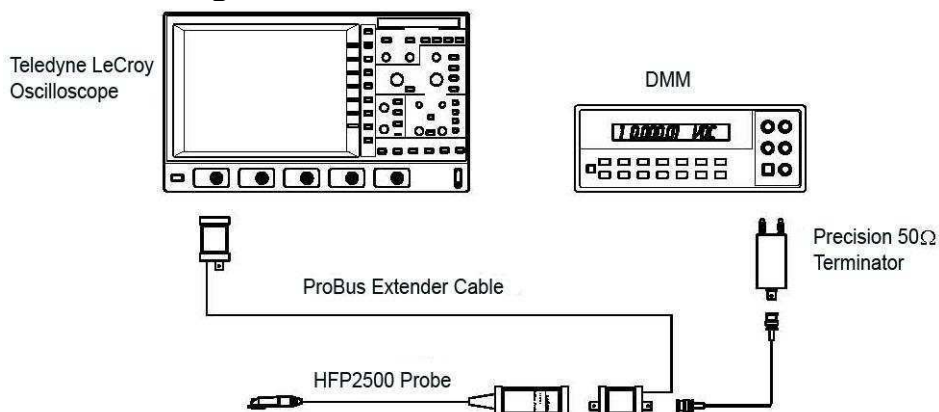

Figure 5, Output Zero Voltage Test Setup
2. Connect the banana plugs of the Precision terminator to the input of the DMM. Make sure that the plug corresponding to the BNC shield (marked "Ground") is connected to the LO or COMMON input of the DMM. Refer to Figure 5, Output Zero Voltage Test Setup for setup information.